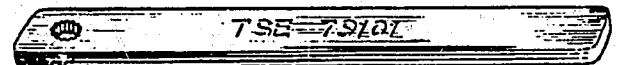

FIGURE 3
- 2.1 A serrated wrench, TSE 79101, (See Fig. 3), is required to hold the eccentric screw when loosening or tightening the locknut or to make screw adjustments.